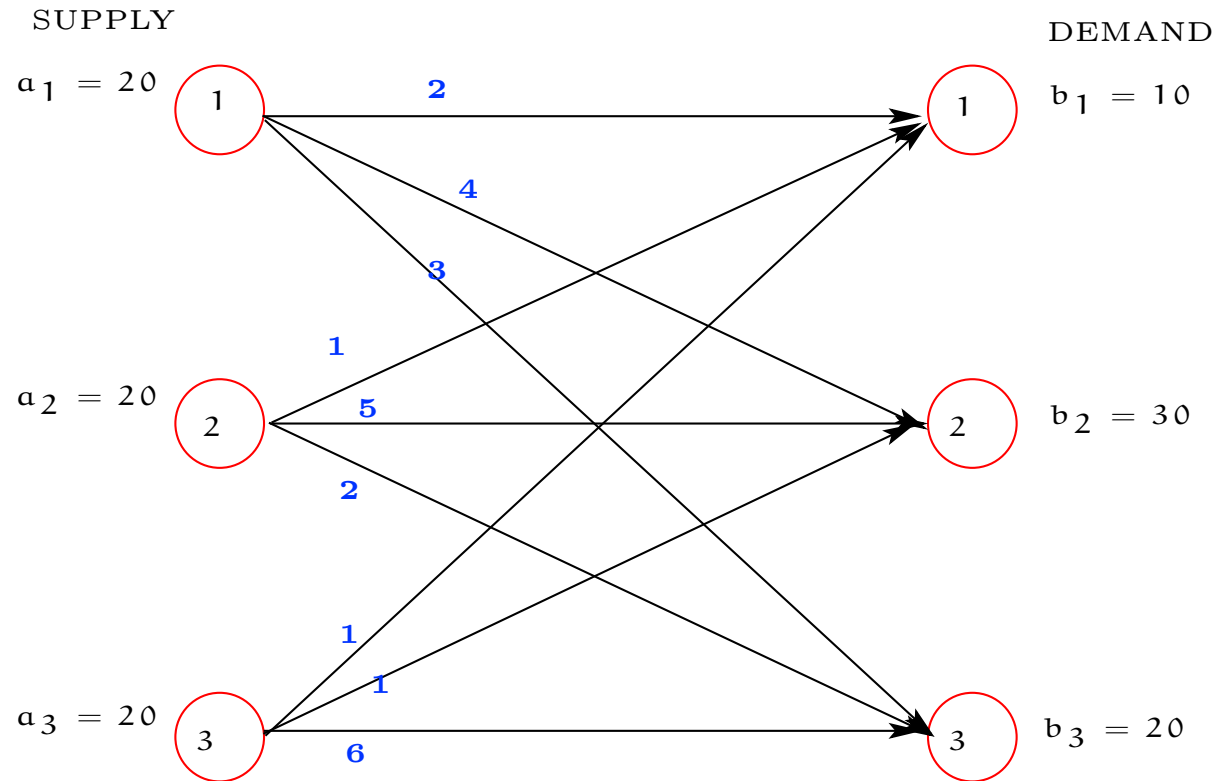

Figure 5: Transportation network with three supply & three demand points. The unit shipping costs are given in **blue** on each arrow.
- The network associated with this problem is shown in Fig. 5.
- To see the special LP structure of a transportation problem, consider the toy example in Fig. 5.
- To see how to do it, look again at the network diagram in Fig. 5.
- Looking at Fig. 5, start with the first source node, S_1 (in the NW corner) and ship as much as possible to the first destination D_1 .
- For my simple Example in Fig. 5, $m + n - 1 = 3 + 3 - 1 = 5$.
- When I used the NWCR to construct the solution in Fig. 5, I constructed a feasible solution by sequentially assigning values to $m + n - 1$ variables so any assignment didn't affect the value of a variable already assigned.